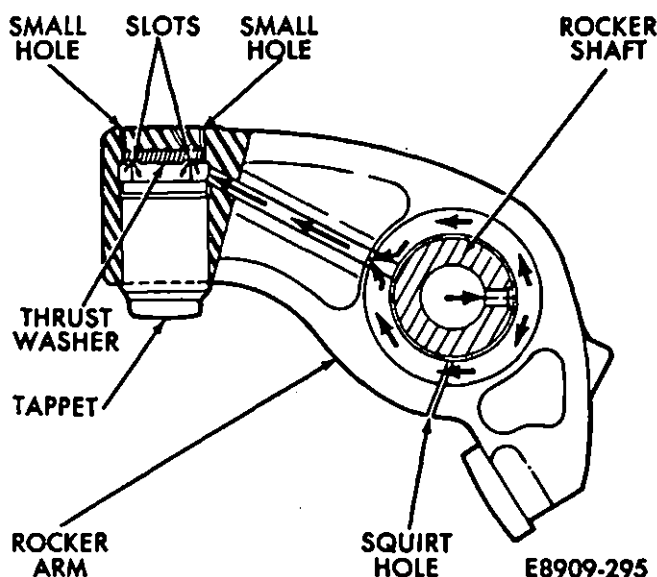

Fig. 9—Hydraulic Tappet and Rocker Arm
hole lubricates the camshaft lobe (Fig. 9).
- (1) Disassemble the rocker shaft assembly.
- (2) Remove the tappet from the rocker arm (Fig. 9).